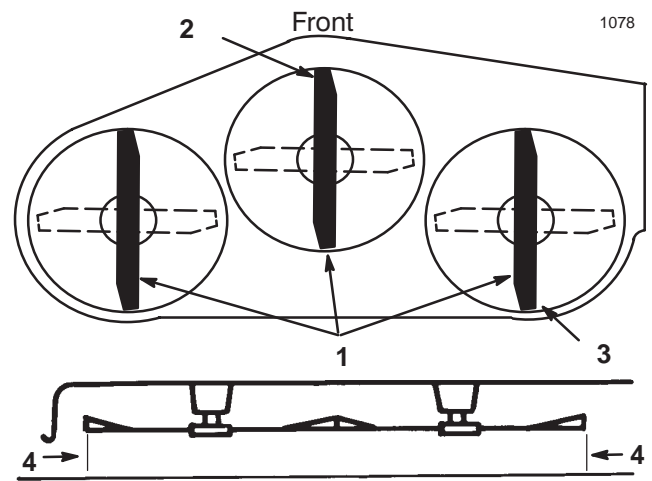

Figure 37
5. Set the height-of-cut at 3 in. (76 mm) and carefully rotate the blades so they are facing front to rear (Fig. 37).
6. Measure between the tip of the front blade (Fig. 37) and the tip of the rear blade to the flat surface. If the front blade tip is not 1/16–5/16 in. (1.6–7.9 mm) lower than the rear blade tip, adjust the front trunion rods.
9. After adjusting both trunion rod yokes evenly, secure the yokes with the hairpin cotters. Check the front-to-rear level again. Continue adjusting the yokes until the front blade tip is 1/16–5/16 in. (1.6–7.9 mm) lower than the rear blade tip (Fig. 37).